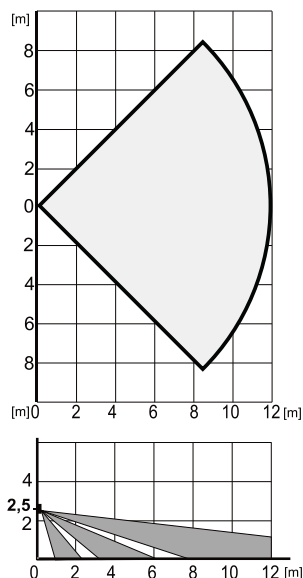

Figure 3. This detection characteristic is valid for standard PIR immunity.
The detector is fitted with a lens (2) covering an area of 90° / 12 m with 3 beams (curtains) – see figure 3. **The lens cannot be replaced by a different type of lens.** This detection characteristic is the same for both the white and the grey lens.